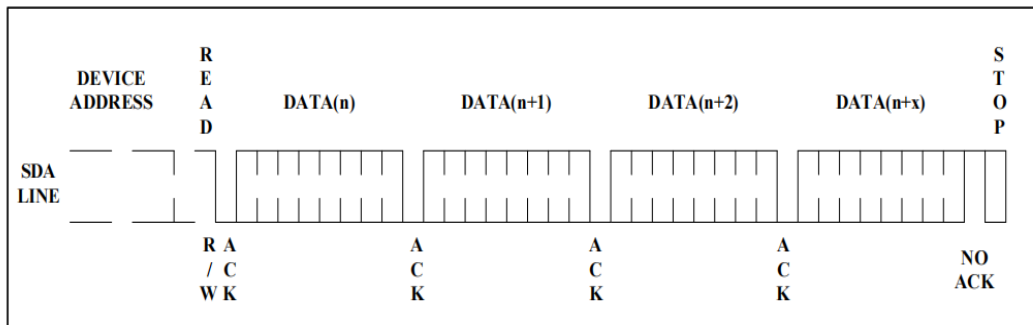

**Figure 10. Random Read**
**RANDOM READ:** A random read requires a "dummy" byte write sequence to load in the data word address. Once the device address word and data word address are clocked in and acknowledged by the EEPROM, the microcontroller must generate another start condition. The microcontroller now initiates a current address read by sending a device address with the read/write select bit high. The EEPROM acknowledges the device address and serially clocks out the data word. The microcontroller does not respond with a "0" but does generate a following stop condition (see **Figure 10**).